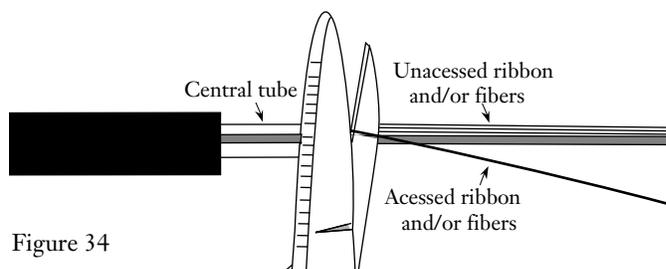

Figure 34
7.6 Using scissors, cut the fiber(s) (or ribbon) to be accessed as close as possible to the end of the central tube (Figure 34) USE EXTREME CARE TO CUT ONLY THE FIBER(S) TO BE ACCESSED.